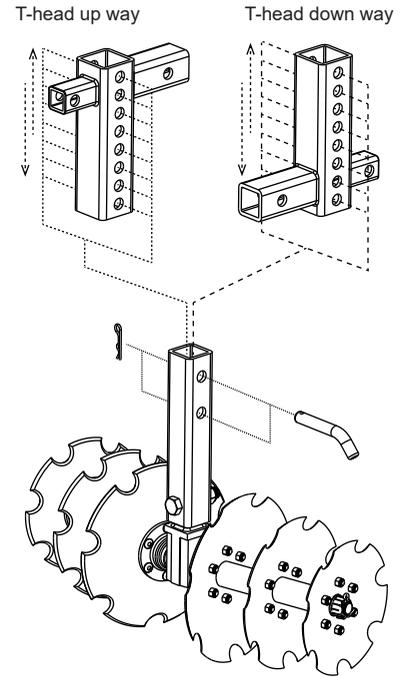

Figure 3
• Slide male T assembly (M, Fig. 3) onto height adjustment bar (H) as in Figure 3. Insert tractor pin (O) and secure with a cotter pin (N).